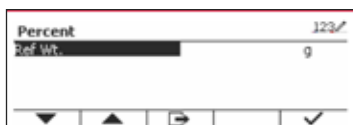

Figure 67
- Press the softkey corresponding to the  icon to enter the submenu for setting reference weight. (See Figure 67)